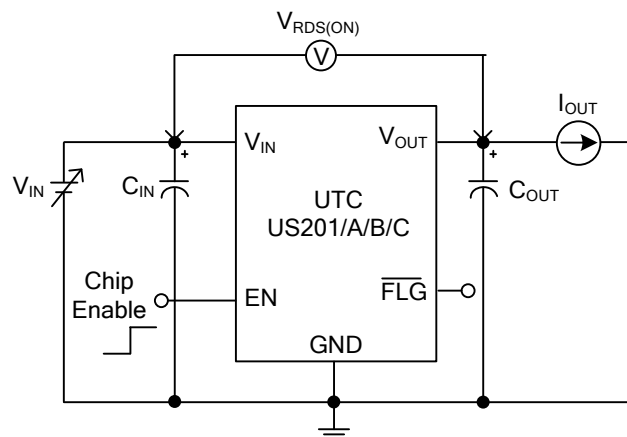

Fig.3 On-Resistance
- Fig.3 On-Resistance vs. Input Voltage & Temperature.